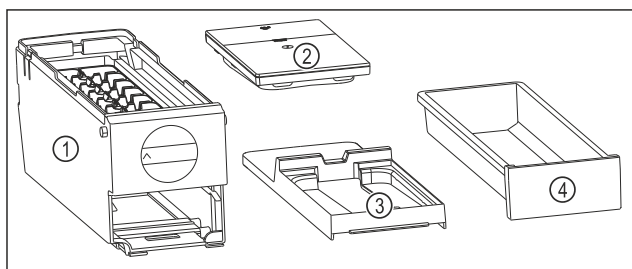

Fig. 98 Components of the EasyTwist-Ice
- ▷ EasyTwist-Ice is dismantled into four parts. (see Fig. 98)
- Only dismantle the EasyTwist-Ice into the components shown. (see Fig. 98)
- Clean the EasyTwist-Ice body Fig. 98 (1) as a whole.